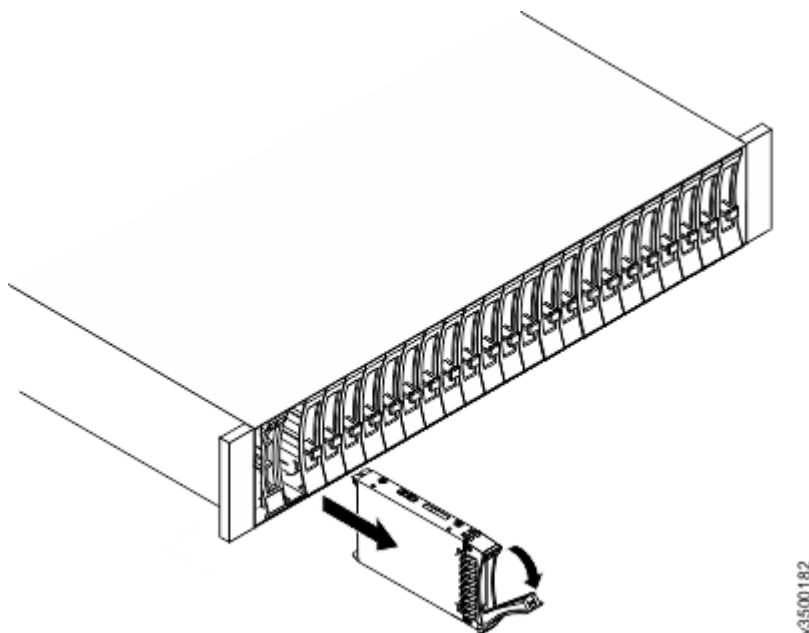

Figure 77. Unlocking and removing a 2.5-inch drive from its slot
5. Pull out the tray handle to the open position (see Figure 77 on page 141).